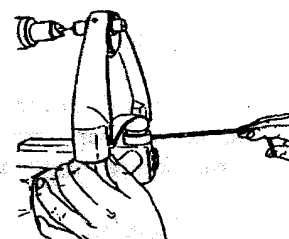

Fig.6
5. Vertically align the cup center to the working center by loosening the accessory mount lock and raising or lowering the tailstock. As shown in Fig.6, tighten the accessory mount lock when the centers' points are aligned. Then re-adjust the tailstock's tube collars.